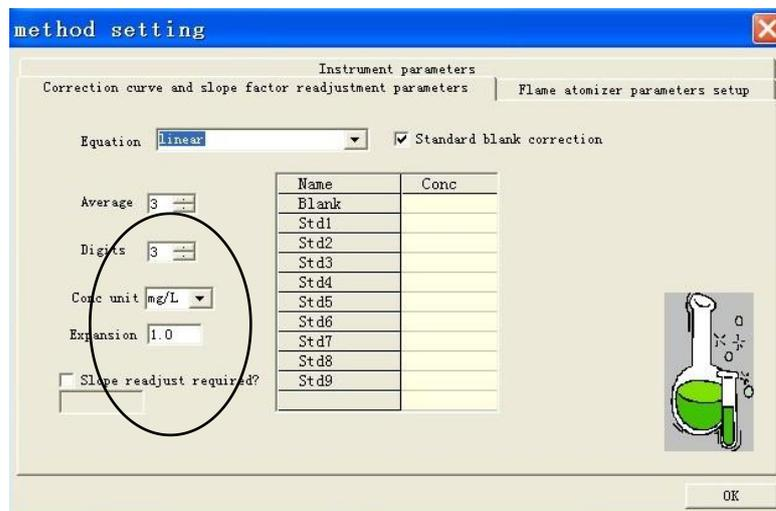

Figure 4-37
3. Significant digits: Enter a proper value within the range of 1-4, as shown in Figure 4-37. The methods for entering the value are similar to those for entering the average times.
4. Concentration unit: The default concentration unit is mg/L. Alternatively, press "▼" to select the desired unit, as shown in Figure 4-37.
5. Expansion: Enter the desired scale expansion times (0.1-30) in the field, as shown in Figure 4-37.
6. Whether slope factor readjustment is required: The setting is deselected by default. If slope factor readjustment is required, check the box, as shown in Figure 4-37.
7. Standard blank correction: The setting is deselected by default. If standard blank correction is required, check the box, as shown in Figure 4-37.